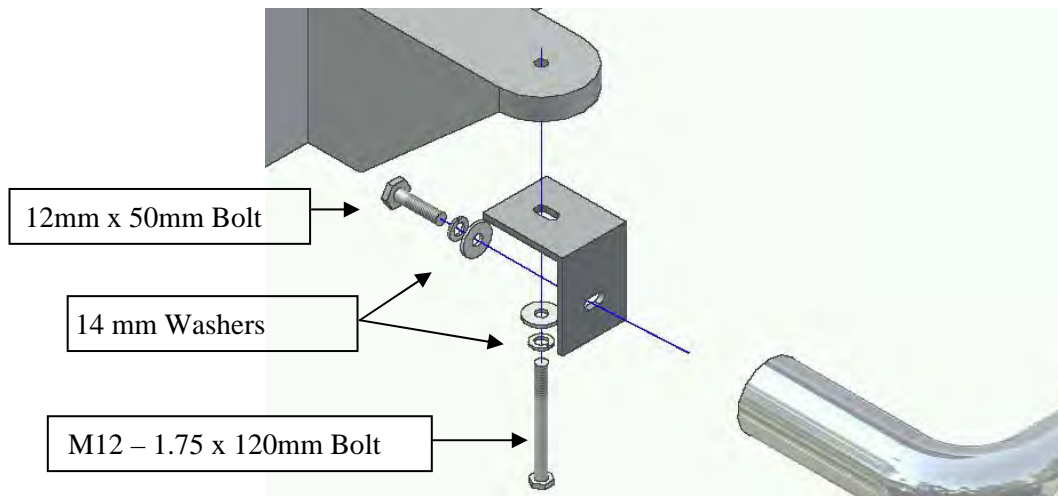

Figure 1.2 – Front Bracket
2. From underneath truck, loosen and remove body mount bolts that run upward through mounts into floorboard. Attach and secure Front Mount Bracket to underside of vehicles front body mount (see Figure 1.2) with (1) M12 - 1.75 x 120mm bolt, (1) 14mm split lock washer, and (1) 14mm x 37mm OD flat washer. Hand Tighten.